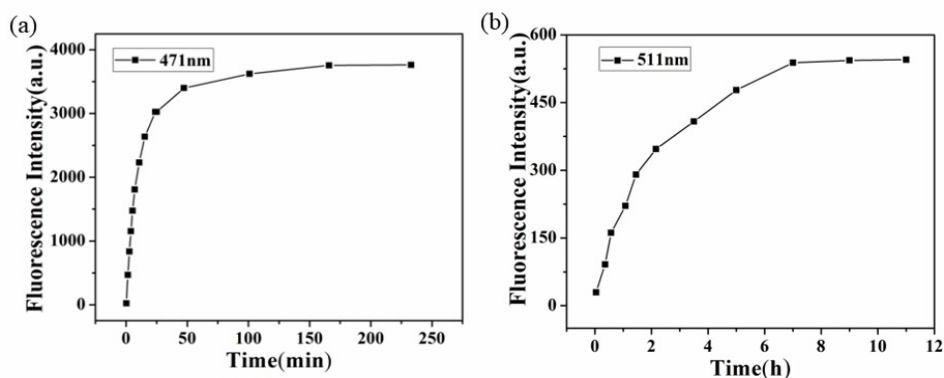

Fig. S9. Fluorescence emission intensity of **L1** (a) at 471 nm towards Ga^{3+} (5 equiv.) and **L2** (b) at 511 nm towards Ga^{3+} (10 equiv.) as a function of time.
9. **Figure S9.** Fluorescence emission intensity of **L1** (a) and **L2** (b) towards Ga^{3+} as a function of time.